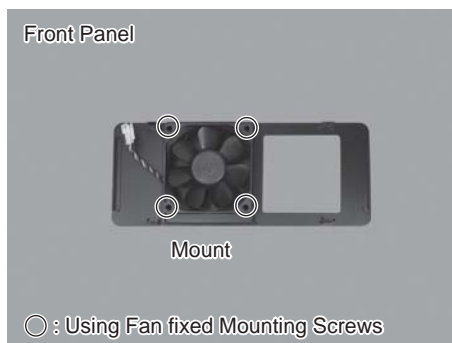

Fig. 44
- (10) Mount the Replacement FAN onto the Case (Front Panel) by using FAN Mounting Screws (4pcs.) (Specified Torque :  $0.5N \cdot m \pm 0.1$ ) (Fig. 44).